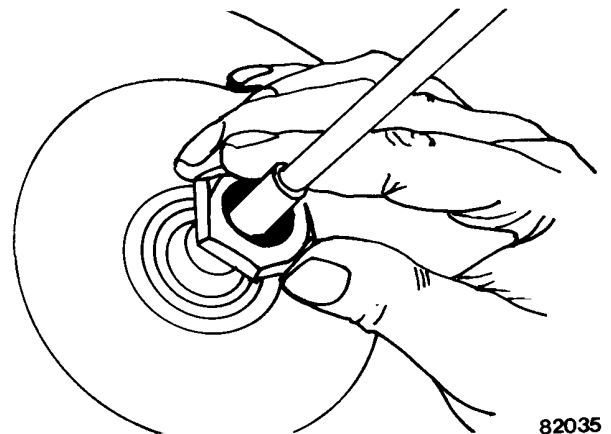

FIGURE 3-19. VALVE STEM INSTALLATION
7. Position name plate over valve stem and install valve stem nut by hand (Figure 3-19). Remove bladder pull rod.
8. Hold bladder valve stem on the flats with a wrench and tighten nut (5) securely.